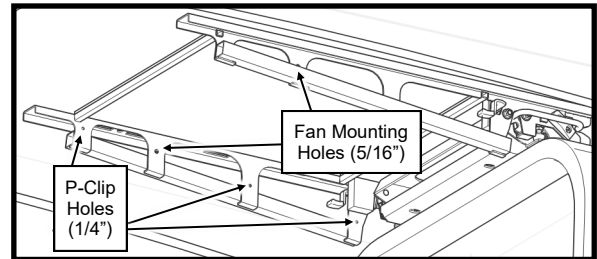

Fig. 1 (Mounting holes for fan)
1. Earlier canopies may not have holes for the fan. Check the canopy frame for the holes shown in Fig. 1. If the holes are not present, remove the canopy from the tractor and remove the frame from the canopy. Drill a 5/16" hole through the middle of the second vertical rib, and a 1/4" hole just above the tube on the other vertical ribs, on both sides of the canopy frame.